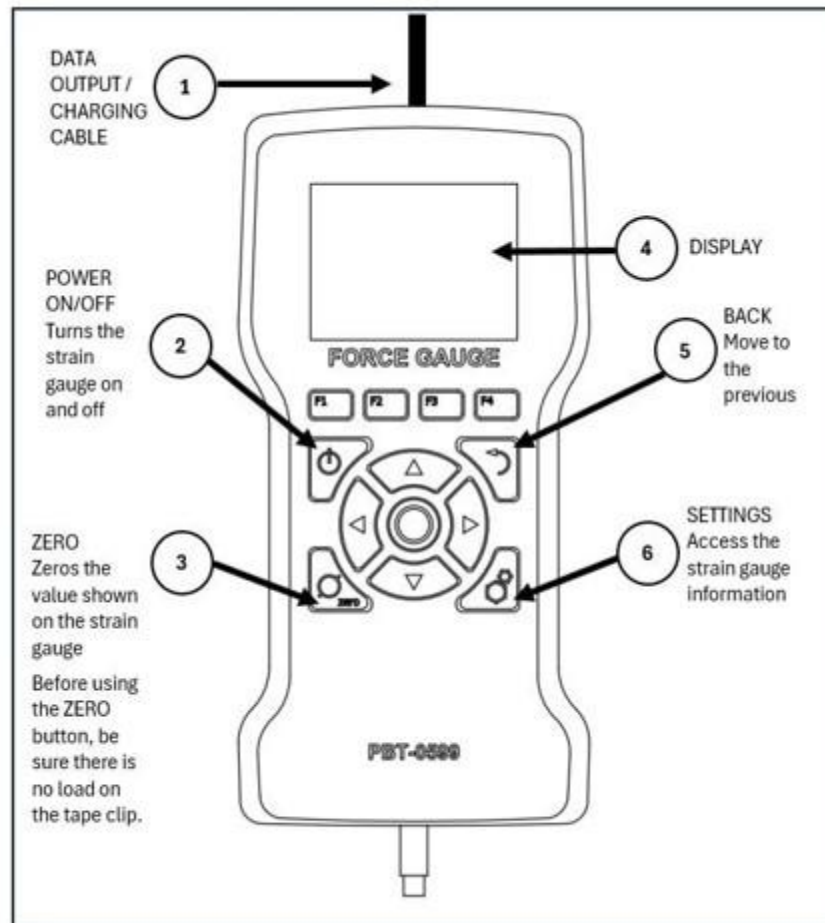

Figure 3: Strain Gauge - key elements
- a. Verify that the USB-C cable is securely connected to the strain gauge (**Figure 3, Item 1**).
- b. With the PBFT powered on, observe the strain gauge display (see **Figure 3, Item 4**). It should show the current battery charge level.